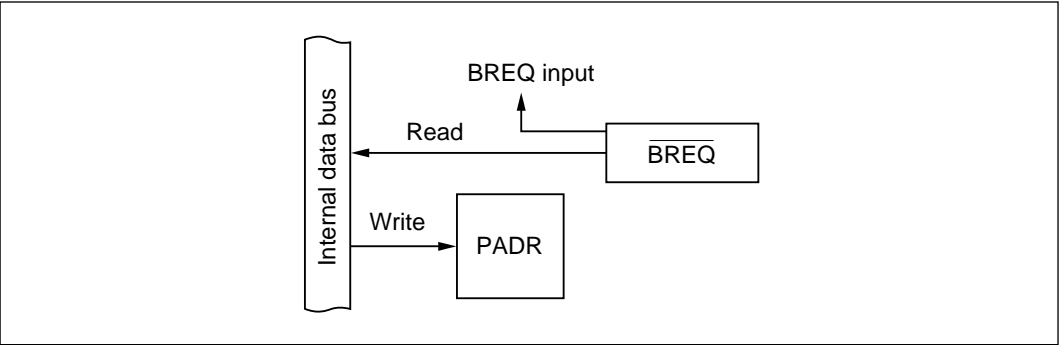

Figure 9-63 $\overline{\text{BREQ}}$ Input Pin (Modes 1 to 6)
(3) **$\overline{\text{BREQ}}$ Pin (PA₅: Modes 1 to 6):** Figure 9-63 shows a block diagram illustrating the $\overline{\text{BREQ}}$ function. Table 9-46 indicates register read/write data. When PA₅ is used for $\overline{\text{BREQ}}$ input, the value written in the port A data register (PADR) has no effect. When read, PADR returns the level of the $\overline{\text{BREQ}}$ signal.